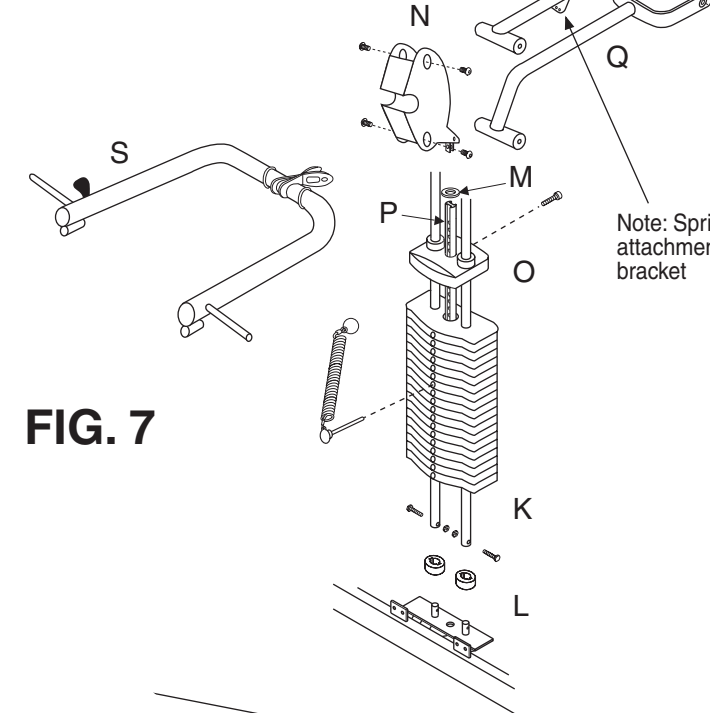

FIG. 7
10. Attach the press station guide rods (K) to the locator tubes (1/4-20 x 1-1/4 hex screw and nut, Qty: 2 ea.). Slide the rubber bumpers (L) down the guide rods. Load the 20 weight plates one at a time with selector groove on the bottom facing out (load 15 lb. plates first, if optional heavy stack is being installed). **USE EXTREME CAUTION. FIG. 7**
11. Slide the pin lanyard ring over the front tab at the base of the press housing (N). Now slide the rubber finish washer (M) onto the tabs at the base of the press housing (N). Note: Each stack has one of these, but the one for the press station has the largest rectangular hole. Assemble the press housing (N) to the top plate (O) and selector shaft (P) (3/8-16 x 3 hex screw, Qty: 1). **FIG. 7**
12. Now bolt the lower press pivot lever (Q) (the lower lever is the one with the bend) to the press housing (N) (1/2-13 x 1 button head screw, Qty: 2). It attaches to the press housing bearings nearest the top plate. Assemble it such that the bend matches the drawing. **FIG. 7** Bolt the upper press pivot lever (R) (the upper lever is straight and has a spring attachment bracket on it) to the press housing (N) (1/2-13 x 1 button head screw, Qty: 2). It attaches to the press housing to the bearings farthest from the top plate. Assemble it such that the spring attachment bracket is down, matching the drawing. **FIG. 7**
13. Take the large assembly created in the previous step and lower it onto the guide rods (K). This is easiest if the stack is leaning away from the machine. With the top plate (O) resting on top of the stack, carefully bring the back end of the lower press pivot lever (Q) into alignment with the lower bolt holes on the column (1/2-13 x 1 button head screw, Qty: 2). Likewise, bolt the upper press pivot lever (R) to the column (1/2-13 x 1 button head screw, Qty: 2). Tighten the eight pivot bolts very tight. There are 4 hole plugs to cover the bolts at the column end of the press pivot levers. **FIG. 7**